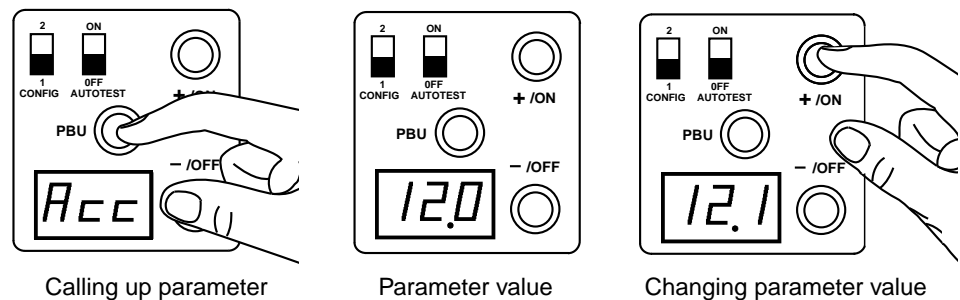
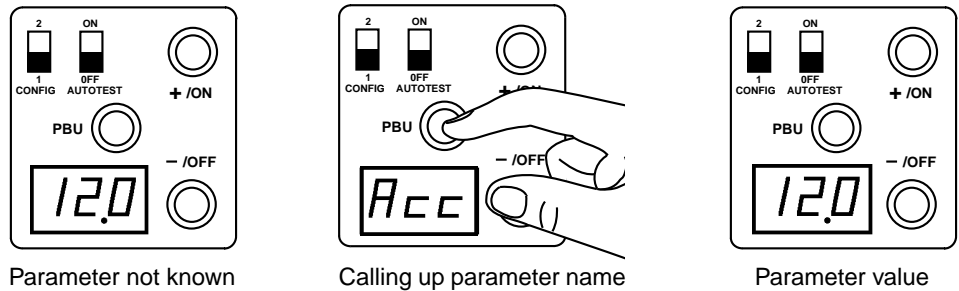

Figure 3-4 Changing a Parameter Value
Figure 3-5 Calling up a Parameter Name
- PBU: When this push button is pressed and released, the parameter name and then its value is displayed (see Figure 3-4). If the parameter value is already displayed, pressing and releasing this push button causes the parameter name to be displayed (see Figure 3-5). Pressing and holding this push button causes the parameter names to scroll on the display.
Figure 3-4 shows how to change a parameter value.
When a parameter value is displayed, the nature of the parameter can be called up again by briefly pressing PBU (see Figure 3-5).